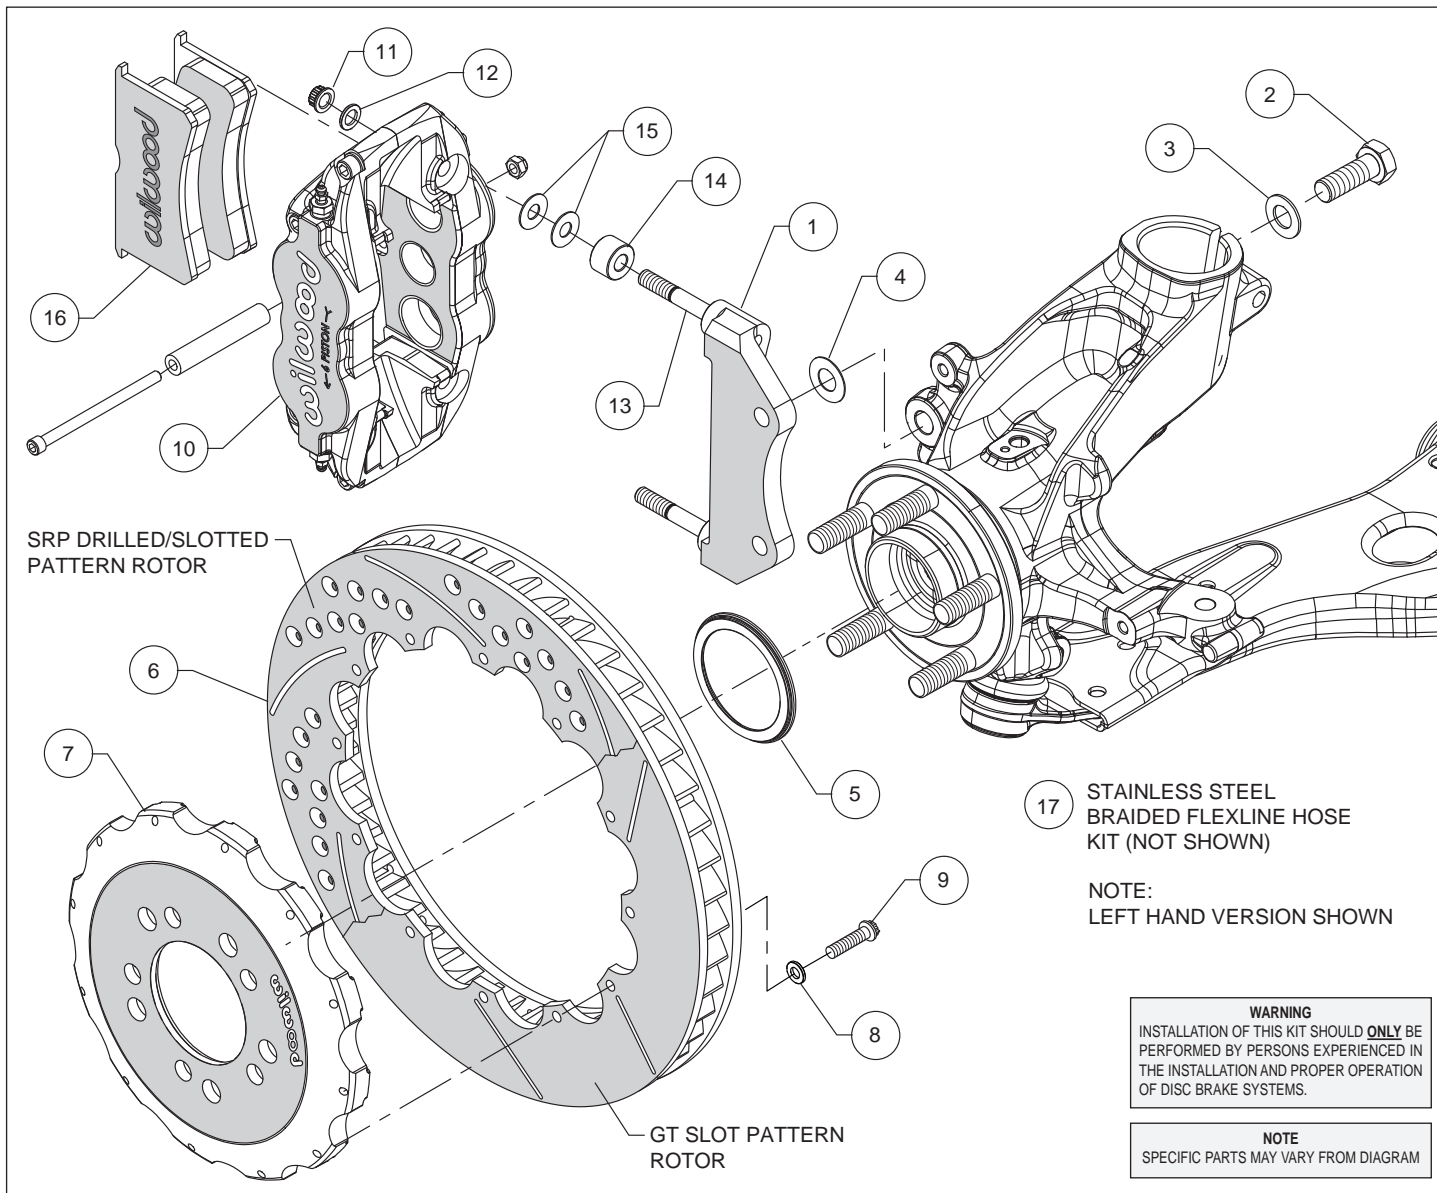
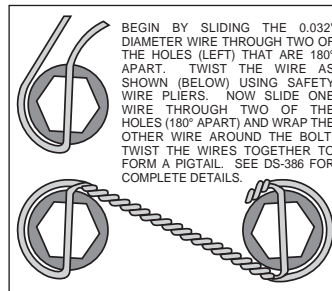

Figure 1. Typical Installation Configuration
Figure 3. Safety Wire Diagram
**Assembly Instructions** (numbers in parenthesis refer to the parts list and Figure 1 on the preceding pages):
- The caliper mount bracket (1) should initially be installed with clean, dry threads on the mounting bolts. Orient the bracket as shown in Figure 1 and Photo 1, and install using washers (3) and bolts (2). Initially place one .029 thick shim (4) on each bolt between the bracket and upright, Figure 1. Temporarily tighten the mounting bolts. **NOTE:** *The bracket must fit squarely against the mount bosses on the upright.* Inspect for interference from casting irregularities, machining ridges, burrs, etc. Later, after the caliper alignment has been checked, the mount bolts will be secured using red *Loctite*® 271.
- Orient the rotor (6) and the hat (7) as shown in Figure 1 and Photo 2. Attach rotor to hat using bolts (9) and washers (8). Using an alternating sequence, apply red *Loctite*® 271 to the threads, and torque to 155 **in-lbs**. For an added measure of security, the bolts may be safety wired using standard 0.032 inch diameter stainless steel safety wire as shown in Figure 3.
- Slide the rotor registration adapter (5) onto the axle register on the axle hub with the smaller O.D. facing outward, Photo 3. Slide the hat/rotor assembly onto the axle hub. **NOTE:** *The hat must fit flush against the axle hub flange or excessive rotor run out may result.* Install three lug nuts (finger tight) to keep the hat/rotor assembly in place while continuing with the installation.
- NOTE:** *This kit contains distinct right and left hand calipers that must be mounted in a specific direction, as described below.* Lubricate the caliper mounting studs (13) with lightweight oil. Initially place two .035" thick shims (15) and one spacer (14) on each stud as shown in Figure 1 and Photo 4. Mount the caliper (10) onto the bracket (1) using lock nuts (11) and washers (12), Figure 1. Ensure that the caliper is mounted so that the largest pistons are at the rotor exit end of the caliper, in relation to the direction of rotor rotation. Temporarily tighten the lock nuts and view the rotor through the top opening of the caliper. The rotor should be centered in the caliper, Photo 5. If not, adjust by adding or subtracting shims (4) between the bracket and the upright. Always use the same amount of shims on each of the two mounting bolts. Once the caliper alignment is correct, remove the bracket mounting bolts (2) one at a time, apply red *Loctite*® 271 to the threads, and torque to 60 ft-lb.